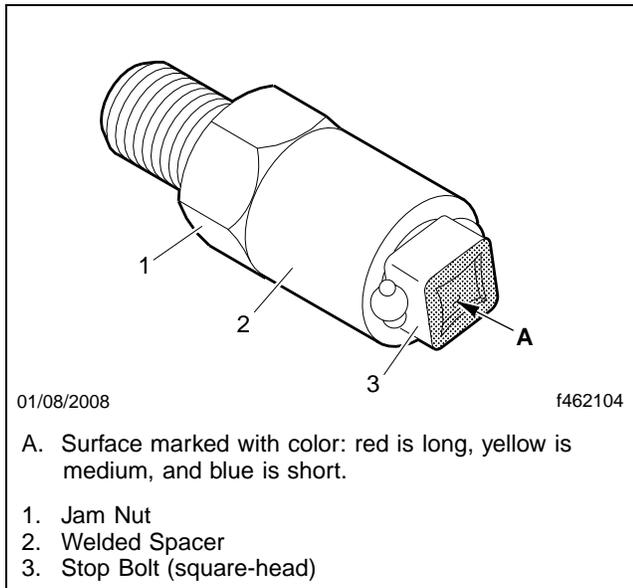

Fig. 1, New Axle Stop Bolt
14. If not already done, hand-tighten the jam nut against the welded spacer before installing each stop bolt. See **Fig. 1**.